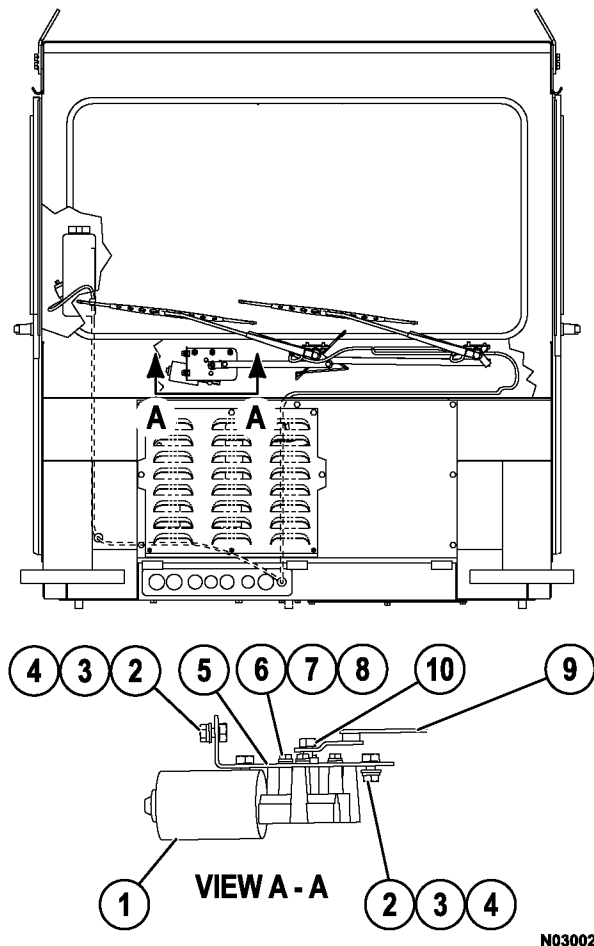

FIGURE 3-1. WINDSHIELD WIPER
3. While holding the linkage stationary, remove nut (10, Figure 3-1) and disconnect the linkage from the motor.
4. Remove three cap screws (6) with washers attaching the wiper motor to plate (5). Remove the motor assembly.
1. Place wiper motor (1, Figure 3-1) into position on plate (5).
2. Install three cap screws (6) with flat washers (7) and lock washers (8). Tighten cap screws to **8-9 N·m (71-79 in. lbs)** torque.
3. Align the motor output shaft with the wiper linkage. Install nut (10) and while holding the linkage stationary, tighten nut to **22-24 N·m (16-18 ft. lbs)** torque.